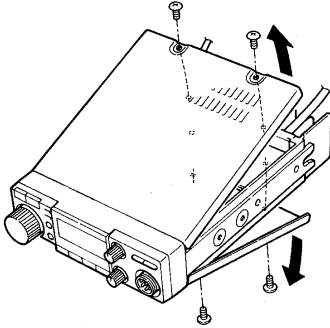

Fig. 1
1) Remove 4 screws from the top and bottom covers and remove the covers. (Fig. 1)